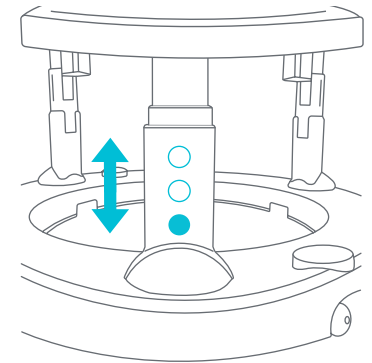

Fig. 6
**NOTE:** Each leg has 3 adjustable height levels. **ALWAYS** adjust all 3 legs to the same level (Fig. 6).